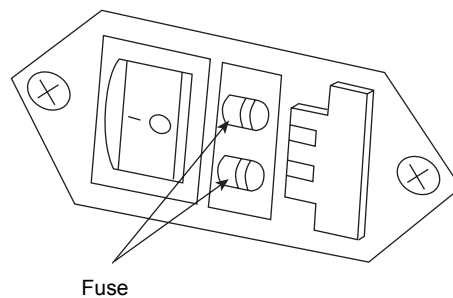

Fig. 11.8 Interior of fuse holder
- (4) Pull out the fuse holder, as shown in Fig. 11.8.